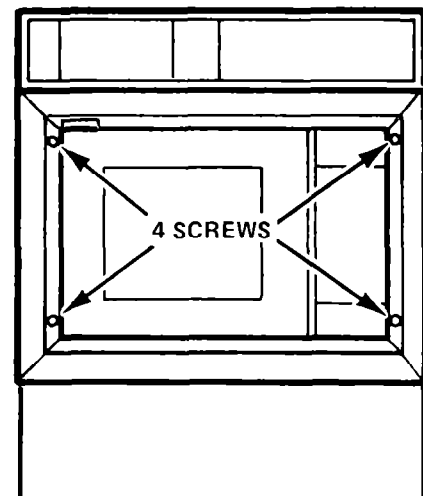

Figure 3
1. Remove the four trim mounting screws. See Figure 3.